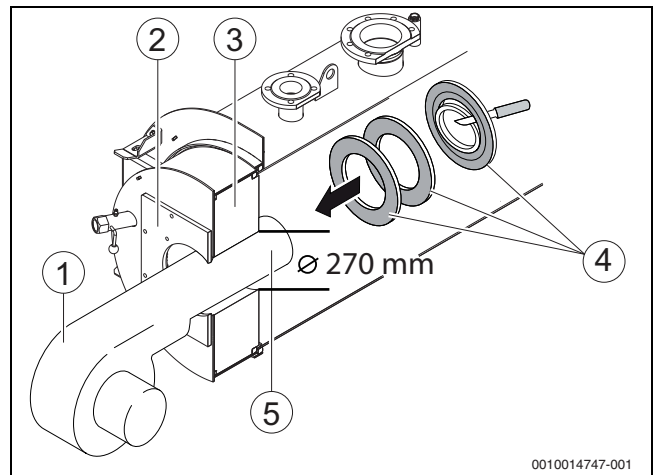

Fig. 18 Installing the burner
If the hole in the thermal insulation of the burner door is increased, the insulating rings supplied will no longer fit (→ Figure 18, [4], page 22).
- Screw the burner to the burner plate (→ Figure 18, [2], page 22).